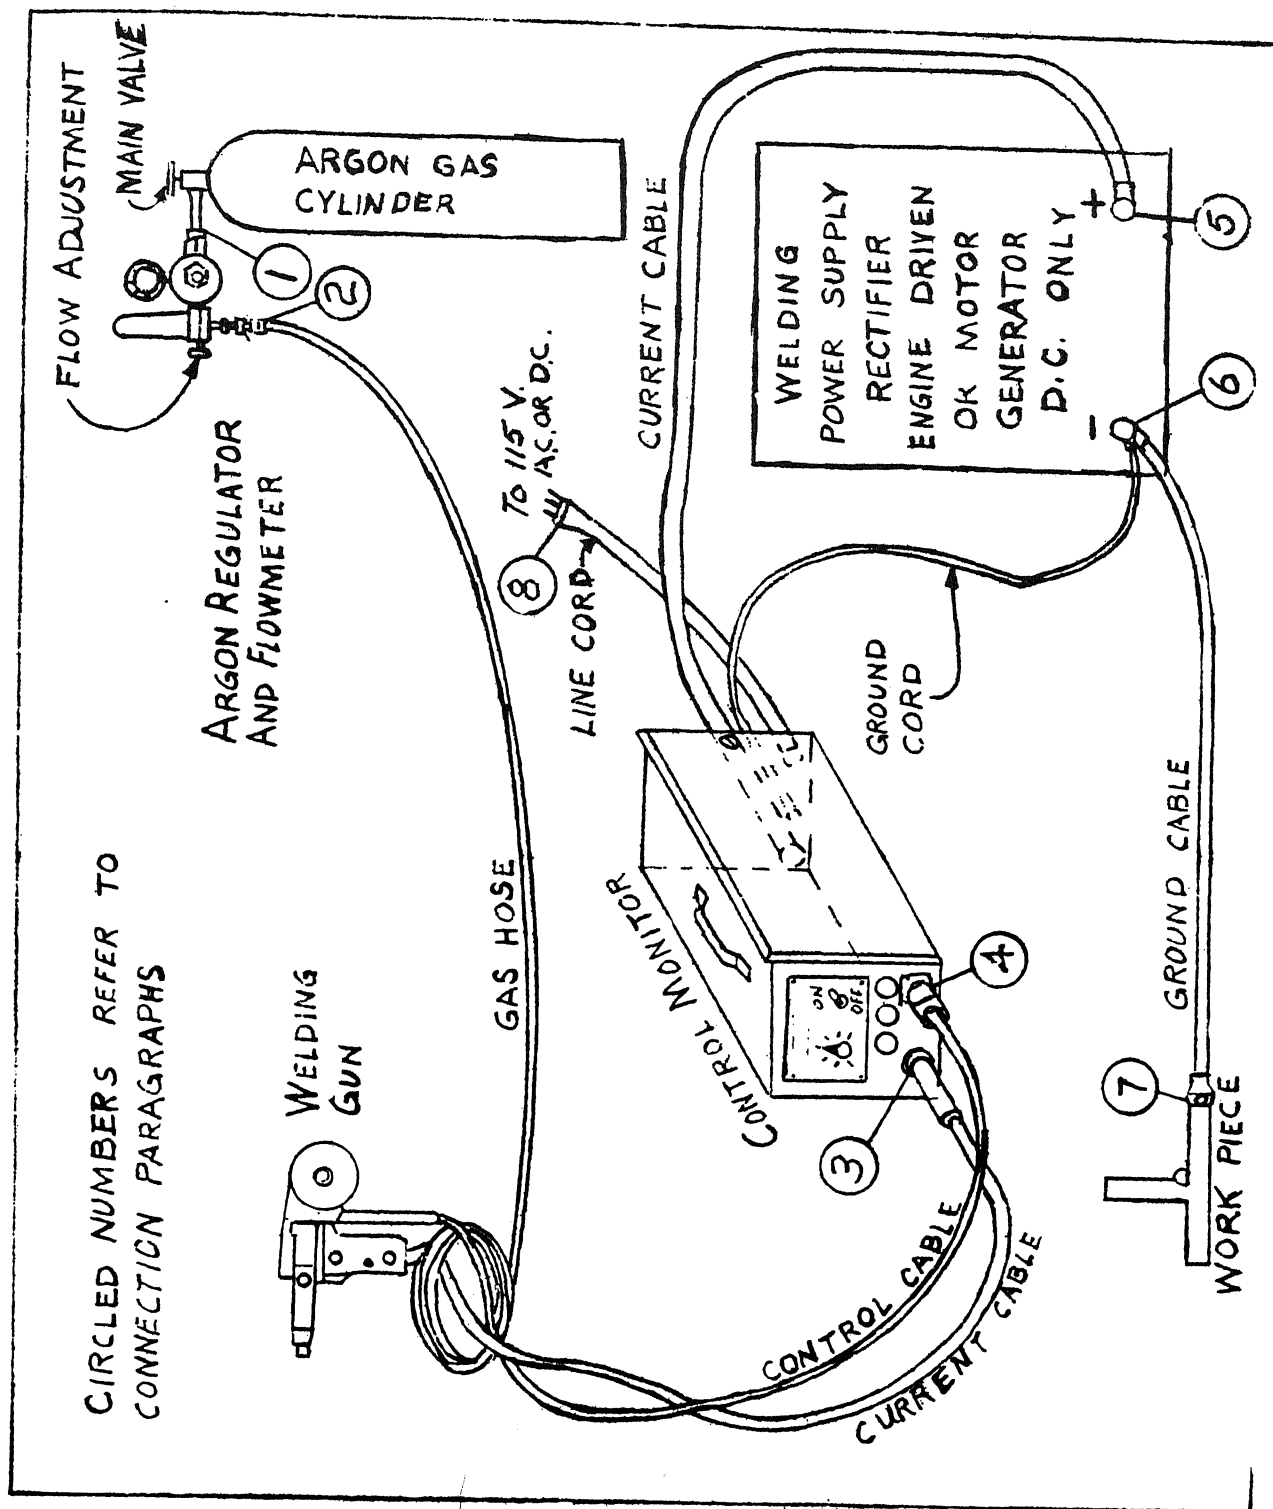

Figure 4. Welding System Set Up.
2. To adjust the gas flow, first turn on the gas supply by turning on the main valve at the top of the gas cylinder. Being careful not to touch the wire to the workpiece, pull the weld trigger and hold; at the same time adjust the gas regulator by turning the flow adjustment shown on Figure 4 to the required gas flow. As a starting point adjust the flow to 35 cubic feet per hour. This is indicated when the top of the ball in the flowmeter reaches the calibration marked 35. An increase or decrease may be required after welding conditions are established.
4. Turn the rheostat knob (1) on the control monitor to maximum.